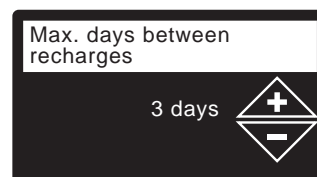

FIG. 28
21. **MAX. DAYS BETWEEN RECHARGES** Press the UP (▲) or DOWN (▼) buttons to set the number of days between automatic recharges (See Figure 28). The feature can be set from 1 to 99 days.